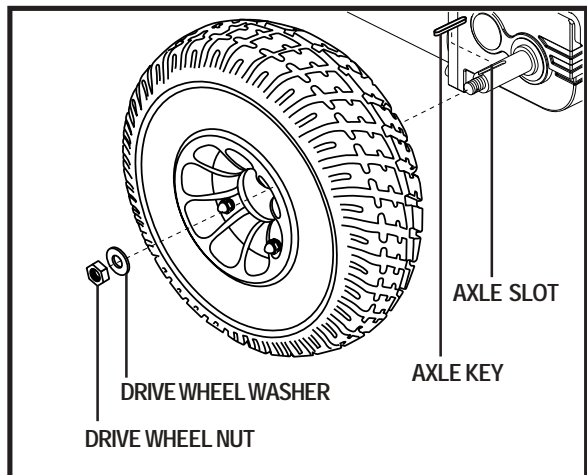

Figure 25. Quantum 1103 Ultra Drive Wheel
4. Remove the drive wheel nut and washer from the axle. See figure 25.